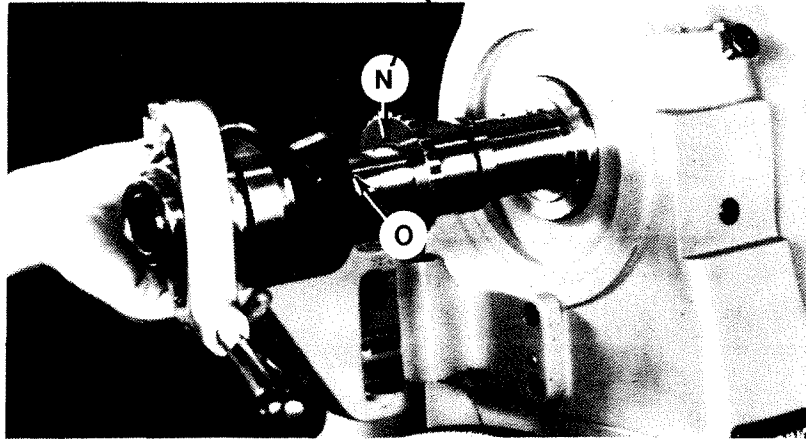

Figure 4.3 - Collet Closer Removal
3. Remove the collet closer as shown in Figure 4.3.
Do not turn adjusting nut "N", Figure 4.3 . It is not threaded to the spindle.
4. Remove adjusting nut "N", Figure 4.3, by pulling it straight off the end of the spindle.
DO NOT force adjusting nut "N", Figure 4.3, onto the spindle. If the adjusting nut goes on tightly, remove the adjusting nut and examine for burrs or scratches.
1. Apply a film of light oil on the rear of the headstock spindle and replace adjusting nut "N", Figure 4.3.